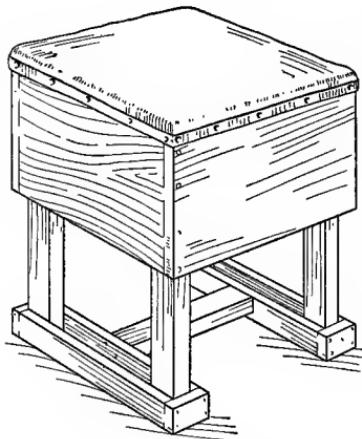

FIG. 190.—A Desk Stool.
**The Desk Stool** in Fig. 190 has a soap-box seat, and legs constructed similar to the end supports of the writing-desk